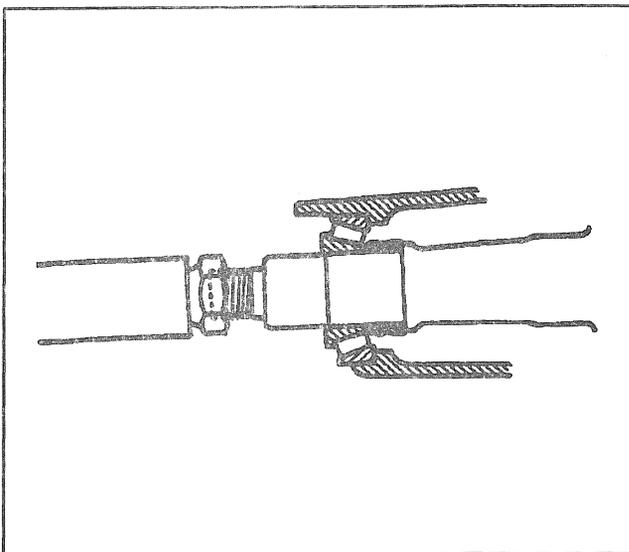

Figure 8—Removing the Drive Pinion
B. Replace the axle housing cover (25) with two bolts (24) to keep the pinion from falling.
C. Drive the pinion out of the housing with a hammer and soft drift (Figure 8).
- Remove the cover (25) and the pinion (15).
21. Collapsible spacer (11) from the pinion.
22. Outer seal (9) and outer pinion bearing (10).